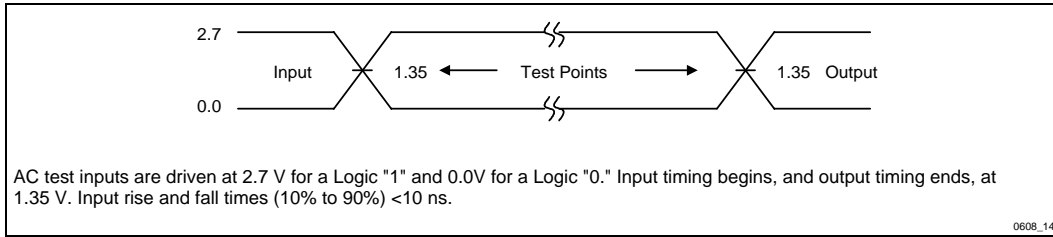

Figure 14. Transient Input/Output Reference Waveform for $V_{CC} = 2.7\text{ V}-3.6\text{ V}$
5. See Figures 14 through 16 for testing characteristics.
- See Figures 14 through 16 for testing characteristics.